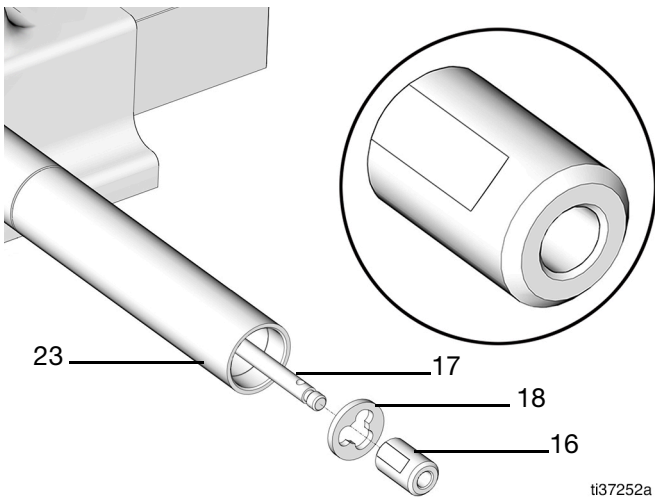

FIG. 62
18. Place the spacer (18) into the pump lower tube (23) until seated (FIG. 62).
19. Attach the shuttle valve (16) to the shovel rod (17), with the notch upward (FIG. 62).